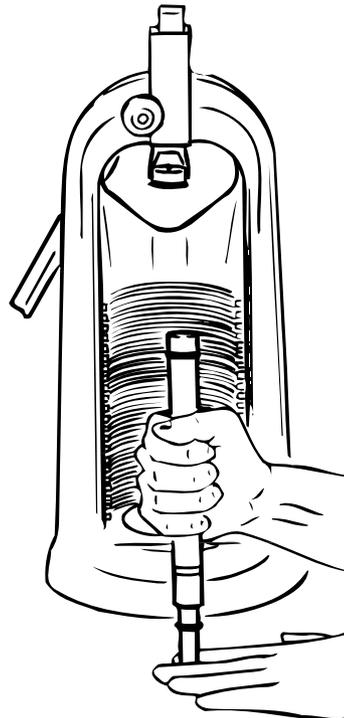

Figure 5 Starting the Seal
5. Immediately push the D end of a collector tube over the open end of each sample tube to start the seal (Figure 5).
6. Place the assembly in the press (Figure 5), putting the sample tube through the hole in the white base. Before pressing, the user should grip the collector tube firmly at the breakaway point to keep the tube from shifting during the pressing procedure.